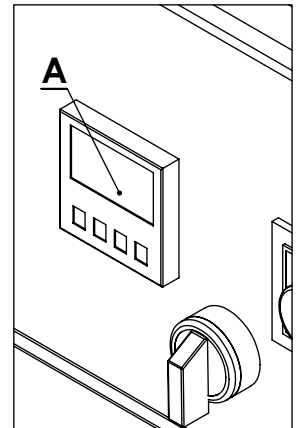

Figure.3
- Control adjusted heat is hot enough. (Figure.3-A).